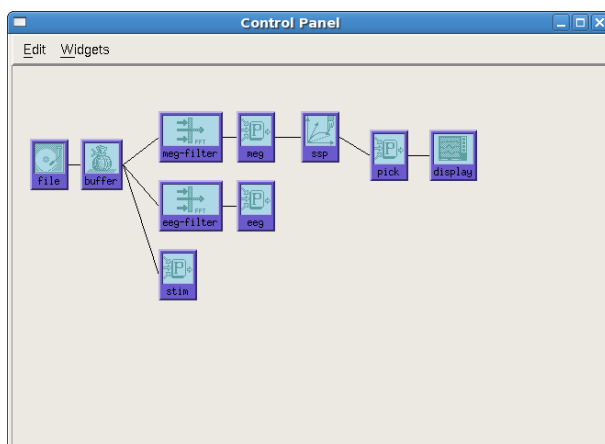

Figure 53: Link widget ssp in the control panel between 'meg' and 'pick'.
- Select **Displays -> Control panel (Alt-d + c)** and link widget **ssp** (Figure 53):